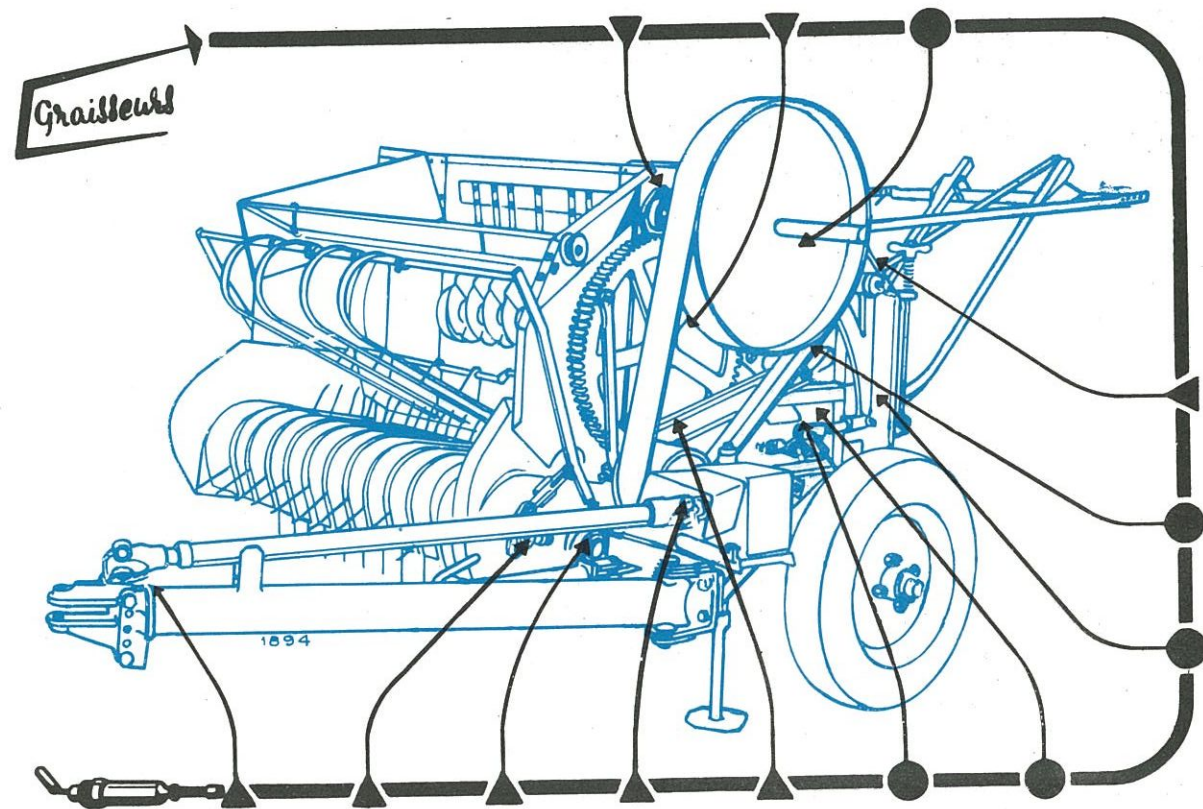

FIG. 32
--- A - GRAISSAGE (FIG. 32, 33 et 34)